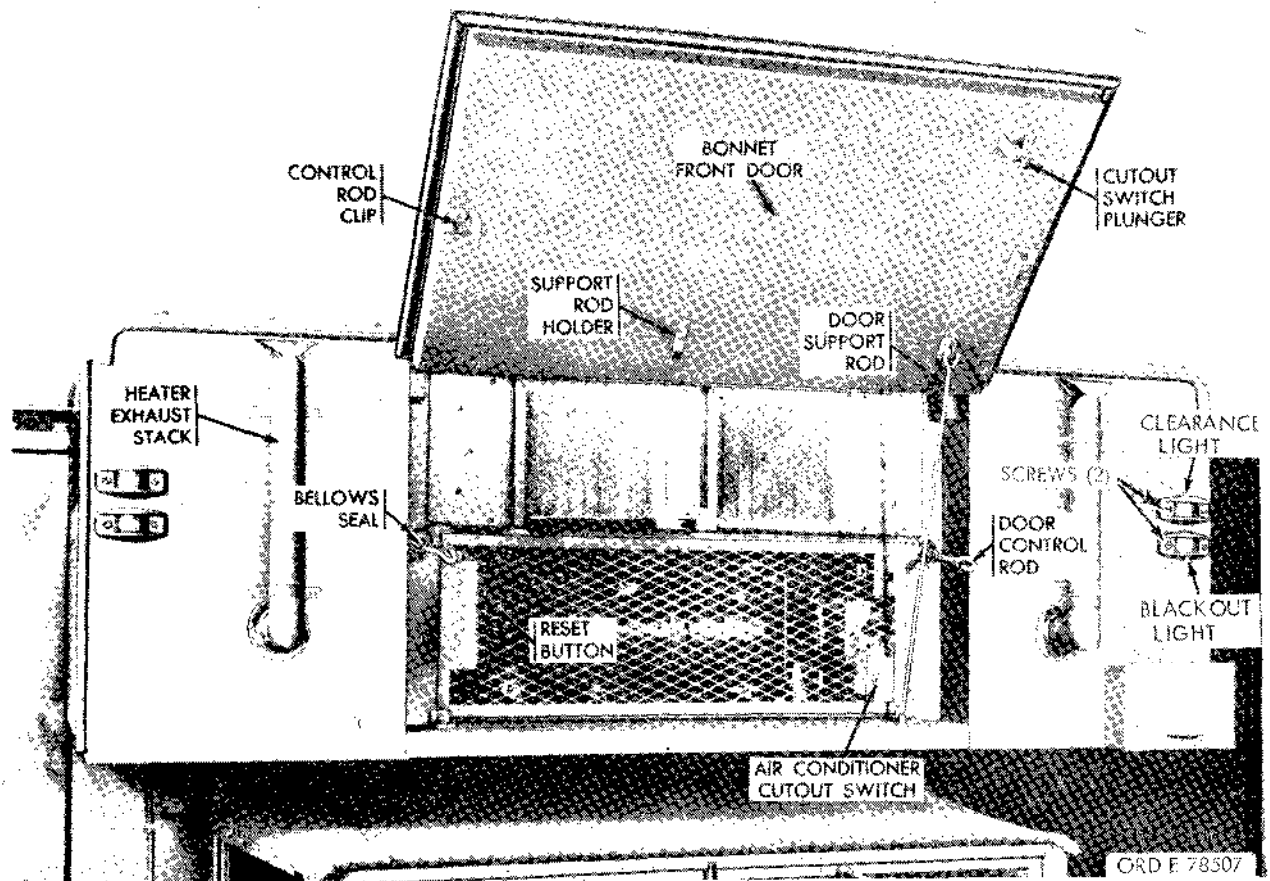

Figure 2-241. Bonnet front door in opened position.
(1) Working inside van, open the bonnet front door with the bonnet front door control handles.
(2) Working outside van, remove the hooked end of the control rod from the control rod clip on the door (fig. 2-241).
(Fig. 2-241.)
(Fig. 2-241. )